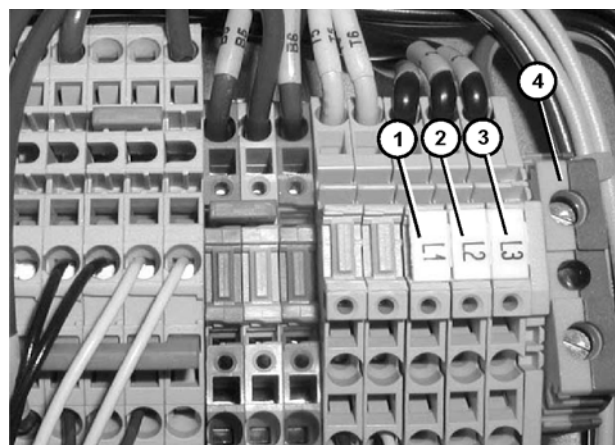

Figure 9
1. Make the input power connections through the line connection cord grip. Refer to (**Figure 9**) for terminations inside the VFD controller. L1 = item 1, L2 = item 2, L3 = item 3 and Ground = item 4.